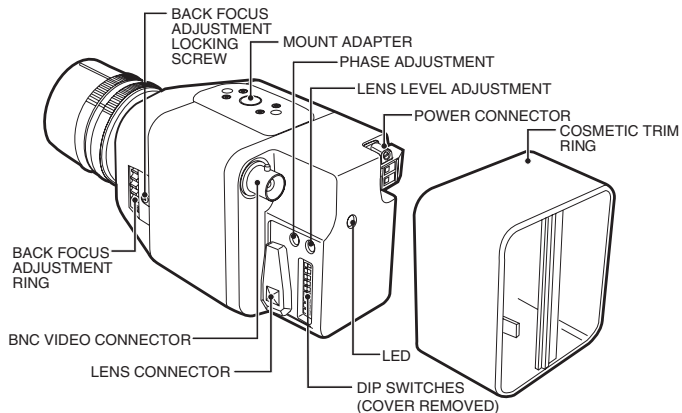

Figure 1. Camera Layout
2. Remove the cosmetic trim ring from the back of the camera (refer to Figure 1). Set the lens mode selector switch on the side of the camera to AIV (auto iris video drive lens) or AID (auto iris DC drive lens). Refer to the *Switch Settings* section. Switch setting is determined by the type of lens used.
1. Remove the rear cosmetic trim ring from the camera (refer to Figure 1). Thread cabling through the trim ring.
When a direct drive lens is used, the lens mode selector switch must be set to AID. Switch the ESC and AGC OFF. Use an appropriate screwdriver to turn the lens level potentiometer (refer to Figure 1) fully clockwise. Next, slowly adjust the potentiometer counterclockwise until the optimum picture is obtained (video output level of 1V peak-to-peak). Switch the AGC ON. To focus, fully open the iris by covering the lens with a suitable neutral density (ND*) filter. Select the scene to be viewed. If the viewed scene is 6.5 feet (2 m) away or farther, set the lens focus to infinity (far). Use the back focus adjustment ring (refer to the *Back Focus Adjustment* section) and focus on the selected scene. Remove the ND filter and set the lens focus as required.